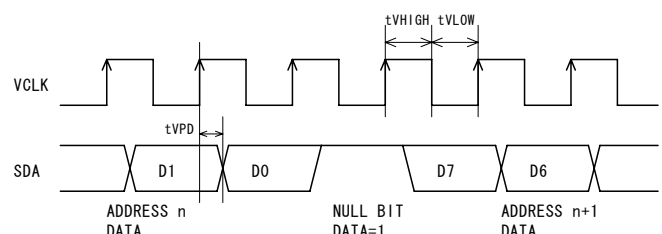

Figure 5. Null Bit
- In this mode, the NULL bit (High data) is output between the address data and the next address data. (See Figure 5.)